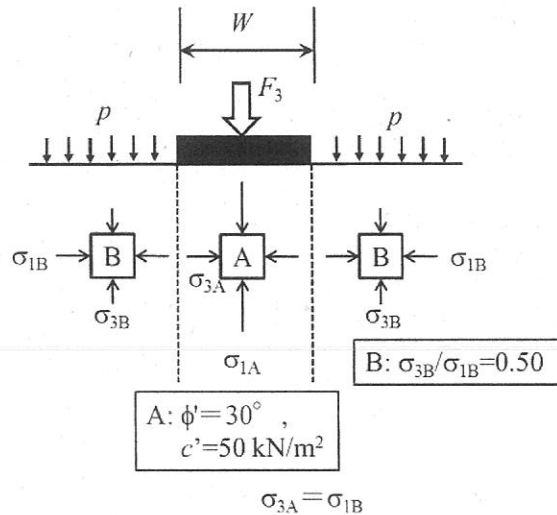

Figure 6
- c) Consider another case where the subsoil below the foundation is improved. As shown in Fig. 6, assume that the region with the stress state A reaches failure, exhibiting an internal friction angle $\phi' = 30^\circ$ and a cohesion $c' = 50 \text{ kN/m}^2$, while the region with the stress state B remains the same pre-failure state as given in b). Under such conditions, illustrate Mohr's circles of stress for these two types of stress state regions, and calculate the vertical bearing capacity F_3 in kN/m.